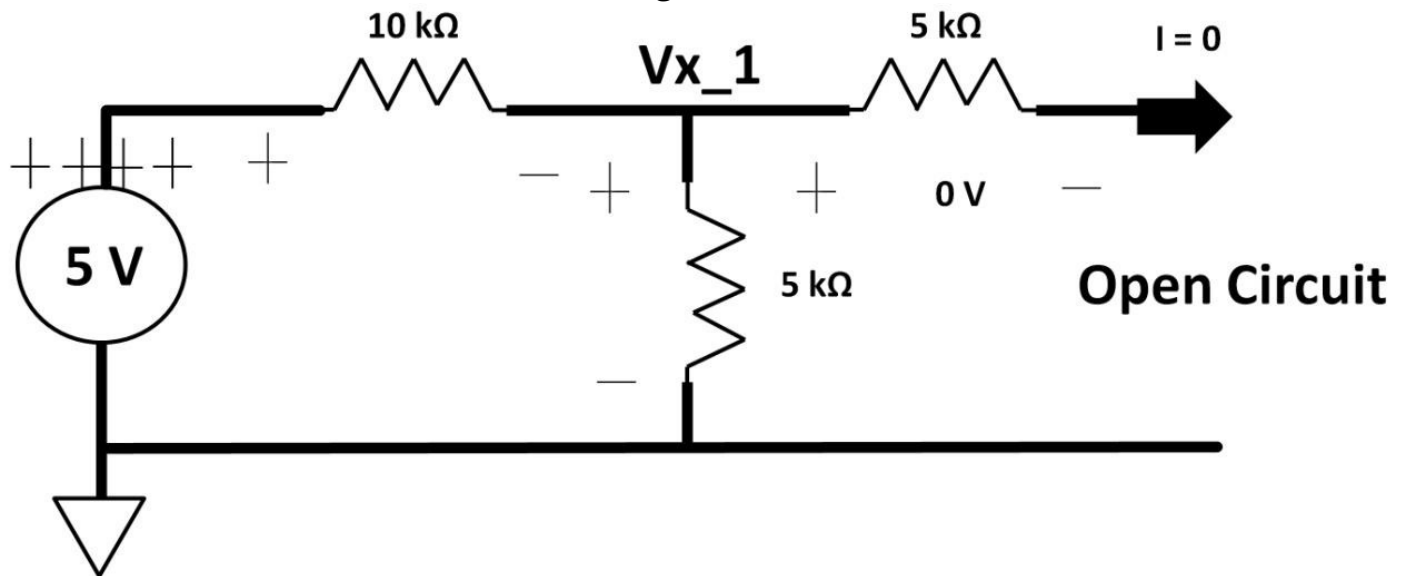

Figure 1.19: Superposition circuit 1
- 2) Start with the voltage source on the left; force the current source open. Then calculate V_{x_1} . The individual circuit is shown in figure 1.19.